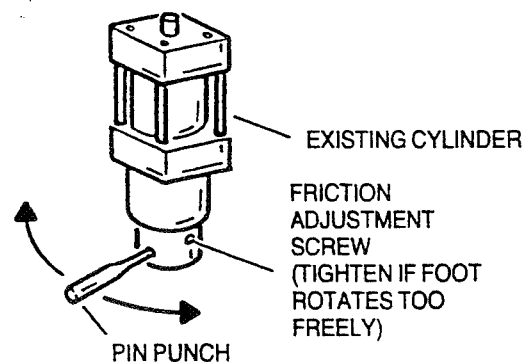

Figure 2-10. Adjustment of Brake Feet
1. With the table in position, activate the brake system and rotate the pin punch to adjust the foot as necessary. See figure 2-10.